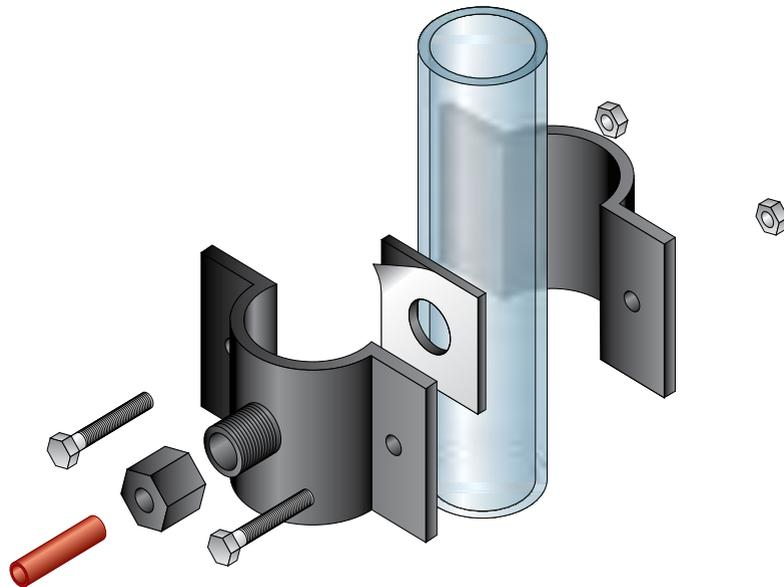

Figure 8: Drain Saddle Assembly
**C.** Peel off the paper backing from the drain gasket and apply the gasket to the “port” connection of the drain saddle. (See Figure 8). Make sure to align the drain saddle to the drilled hole. Attach the drain saddle to the drain pipe and tighten the two screws evenly.